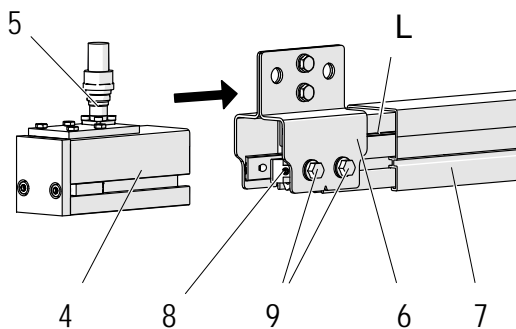

Fig. 23: Mount end feed to rail
- Fasten/screw the connecting cable to the socket (5) of the end feed antenna (4). Fig. 23
- Slide the heat-shrink tubing over the angled plug and socket (5) on the end feed (4) and shrink it with a heat gun (Fig. 23).